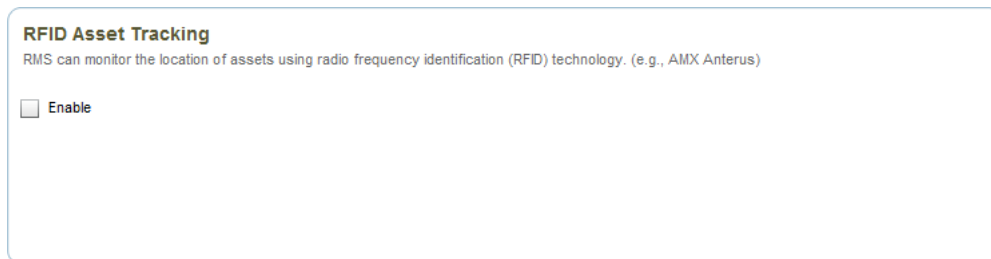

FIG. 429 RFID Asset Tracking page
Select **RFID Asset Tracking** under *Asset Configuration* in the Configuration menu to open the *RFID Asset Tracking* page (FIG. 429):
1. Select **RFID Asset Tracking** under *Asset Configuration* in the Configuration menu to open the *RFID Asset Tracking* page - see FIG. 429 on page 262).